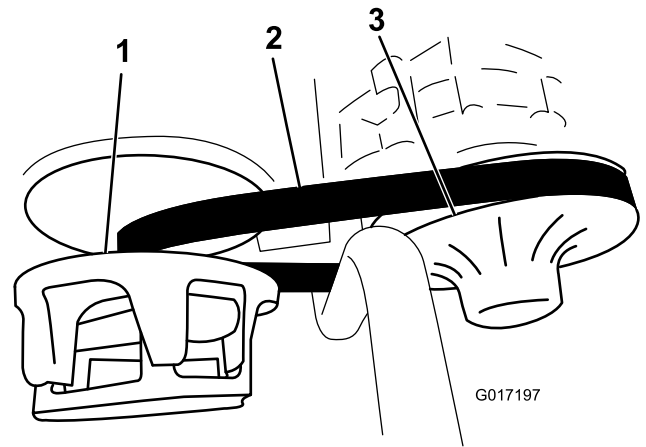

Figure 40
3. Rotate and inspect the belt (Figure 40) for excessive wear or damage.
1. Rotate and route the belt over the secondary clutch (Figure 40).
2. Remove the belt from the primary clutch (Figure 40).